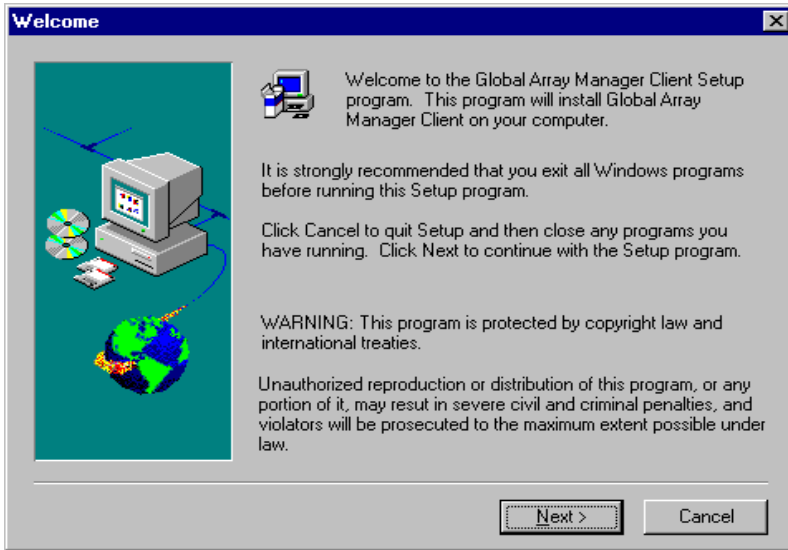

Figure 2-3. Welcome Dialog Box
5. After a few moments, the Welcome dialog box appears (Figure 2-3). Click Next to proceed with the installation, or click Cancel to end the installation procedure and return to Windows.